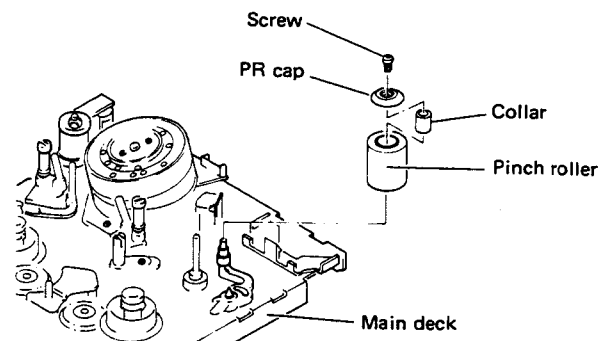

Fig. 2-13 Pinch roller replacement
1. Take out screw (Fig. 2-13) and remove the pinch roller and its peripheral parts.